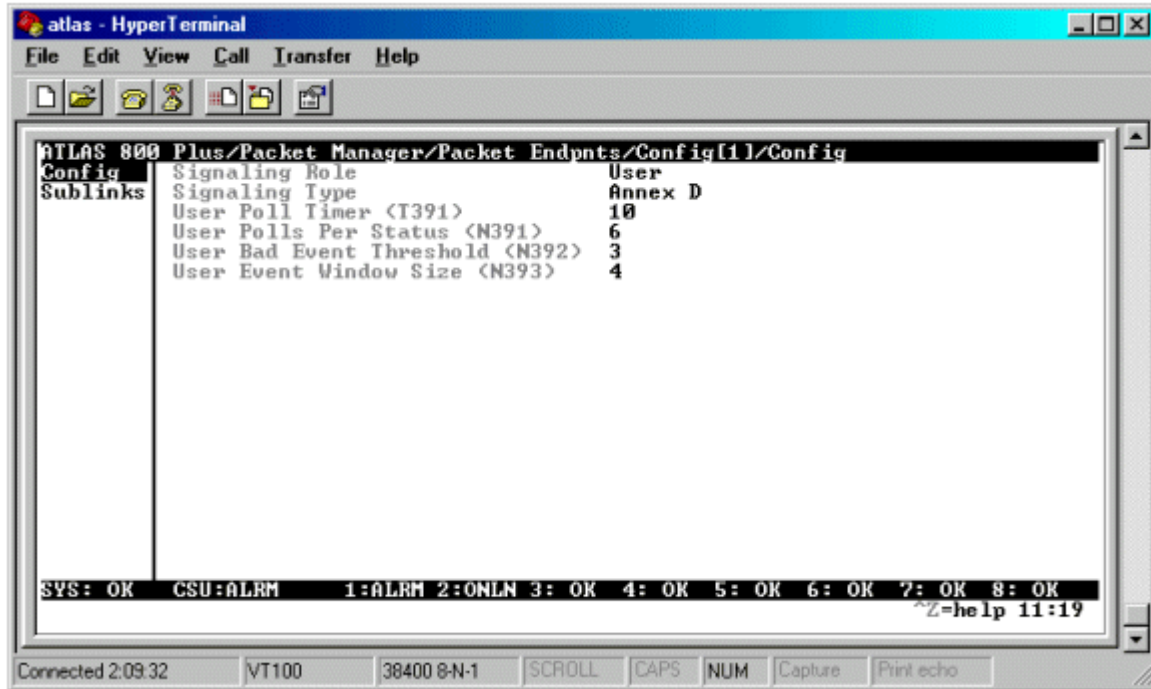

Figure 4
2. Configure the T1 frame relay endpoint by pressing **ENTER** on **Config** for that endpoint. Select **User** for the **Signaling Role** of this endpoint. Select the appropriate **Signaling Type**, either **Annex D** or **LMI**, to match what the frame relay Provider is using on their frame relay switch. In this example, the frame relay switch is using **Annex D** signaling as shown in Figure 4. If the signaling type is not known, it may be set to **Auto**.